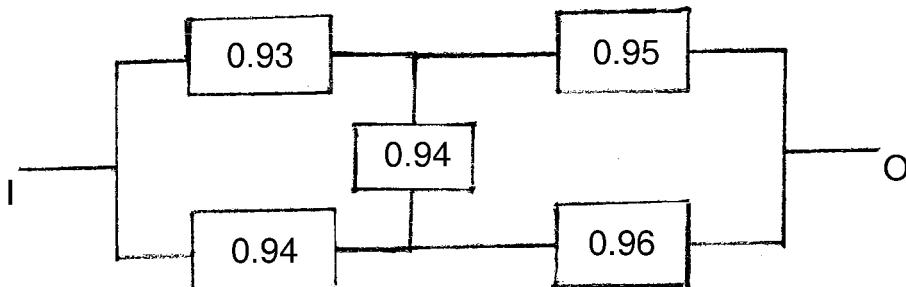

Fig. 1
b) The network shown in the fig. 1 indicates the reliabilities of the component. Find out the reliability of the system by using Star-delta method. 8